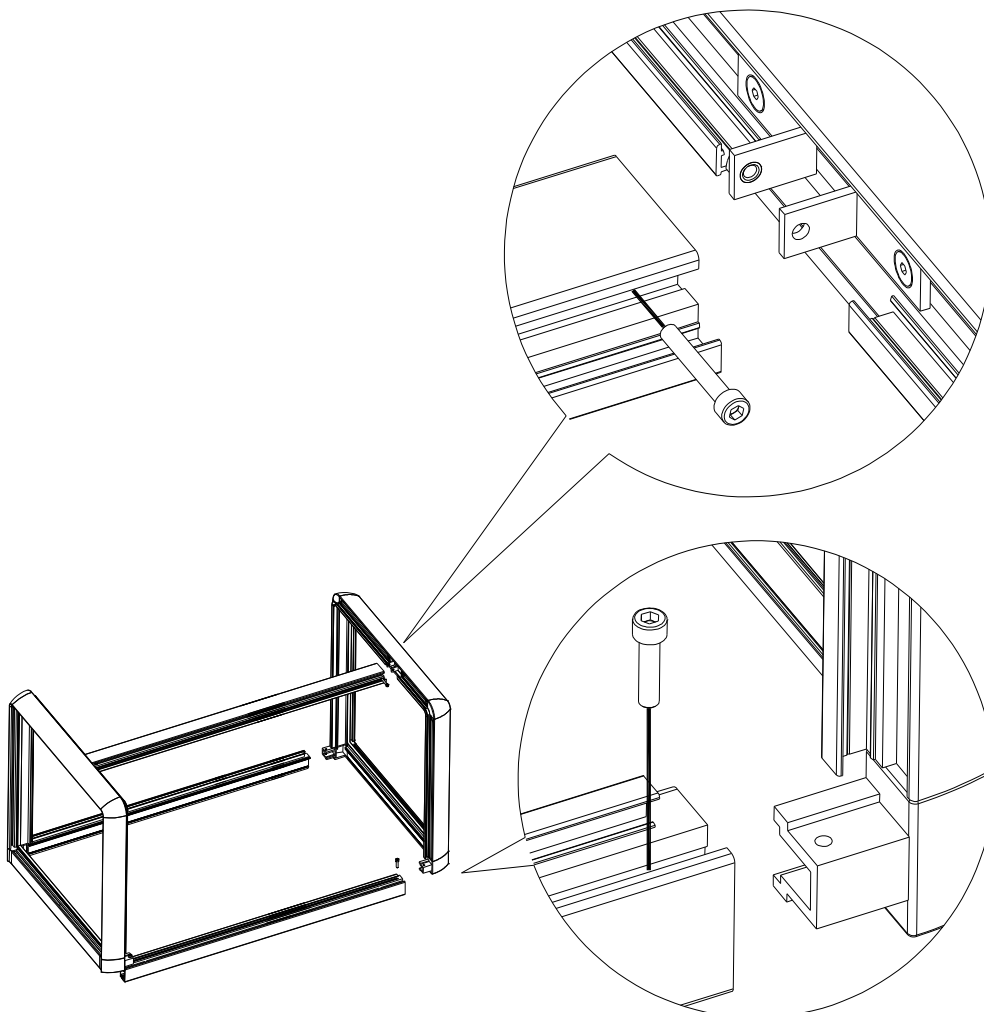

Figure 28: exploded view sound shield W-SQ8
- 2 The sound shield can be disassembled according to exploded view below (figure 28).